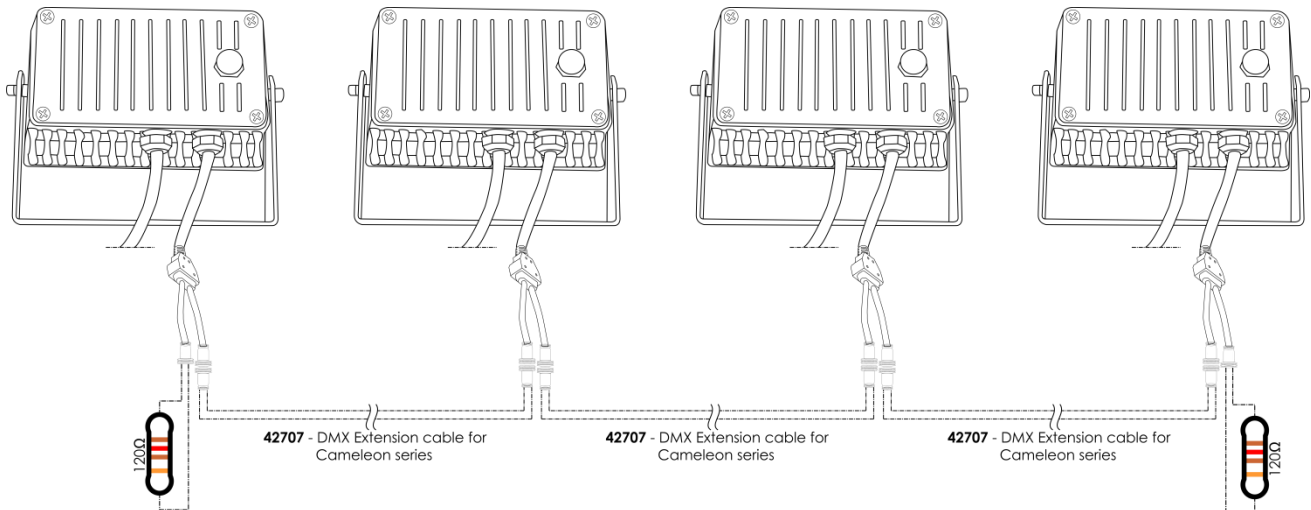

Fig. 03
- 03) Link the units as shown in Fig. 03. Connect the first unit's DMX "out" socket with the second unit's "in" socket, using the **42707** – DMX Extension cable. Link the second, third, and fourth units using the **42707** – DMX Extension cable.